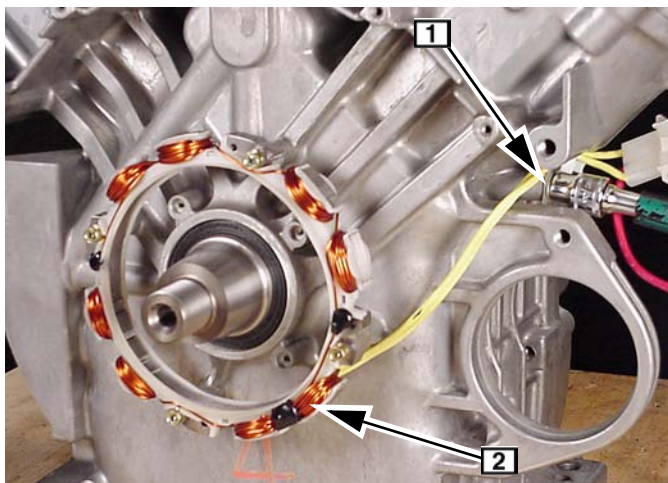

Fig. 54
1. Remove alternator harness clamp **1** and alternator **2**, Fig. 54.